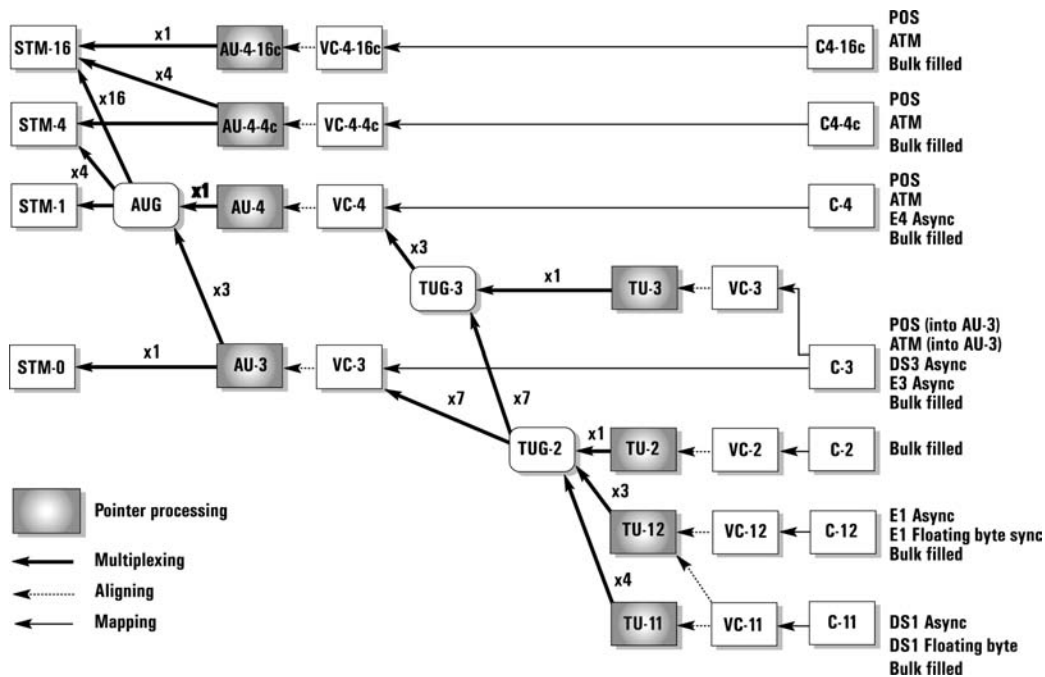
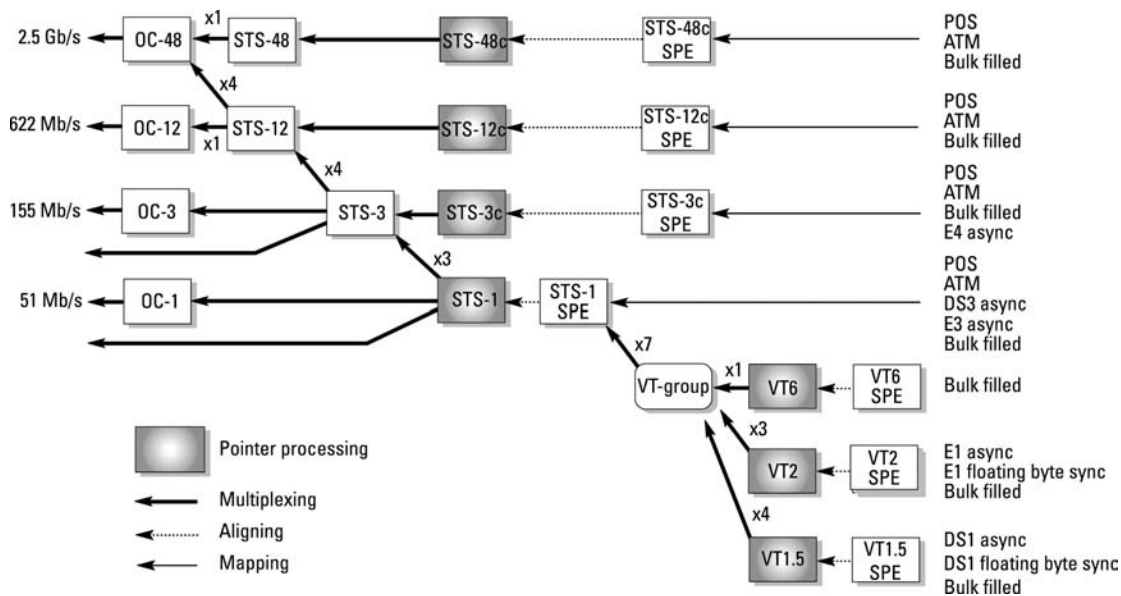

Figure 1: ITU-T G.707 mapping structure (SDH payload mapping)
Figure 2: Bellcore GR-253 mapping structure (SONET payload mapping)
**POS payload mappings** All POS mappings can be multiplexed into the selected line rate as defined in figure 1 and figure 2